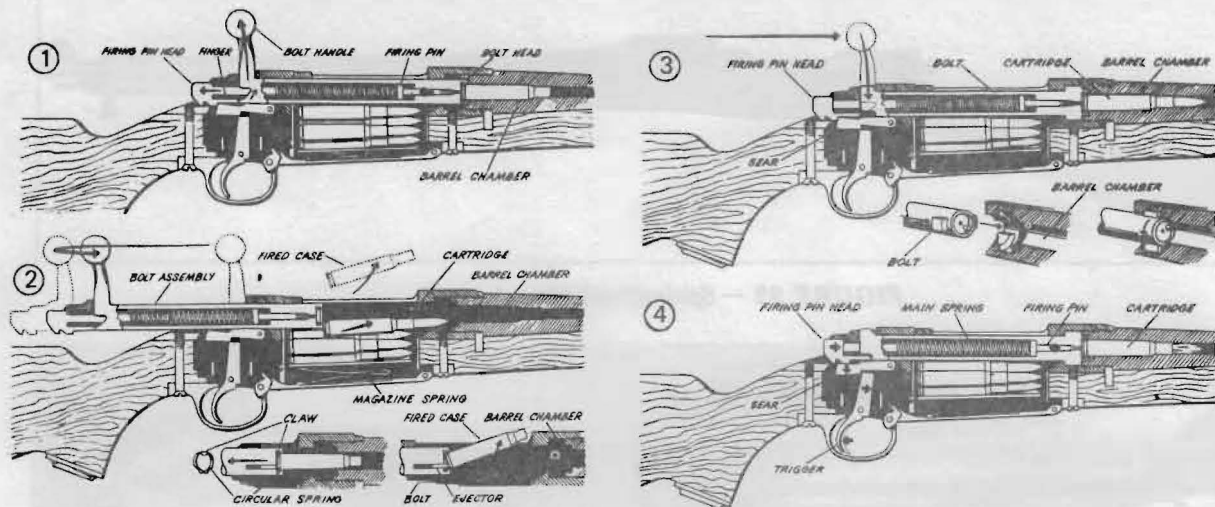

FIGURE 22 (drawings courtesy "Complete Book of Rifles and Shotguns" by Jack O'Connor)
er the Model 725 Remington and assume that the rifle has just been fired. Refer to Figure 22.
1. As the bolt handle is raised, the bolt lugs rotate and (1) UNLOCKING takes place. A notch at the bottom of the bolt handle engages simultaneously and raises a spur on the firing pin head, thus pushing the firing pin to the rear and compressing the mainspring.
2. When the bolt assembly is drawn back, (2) EXTRACTION occurs as the case is drawn from the chamber. A circular spring in the end of the bolt (see insert drawing in Figure 22) tightens the claw, gripping the case head tightly. When the fired case clears the chamber, the spring-loaded ejector (3) EJECTS the spent cartridge. The magazine spring forces the next cartridge up into loading position.